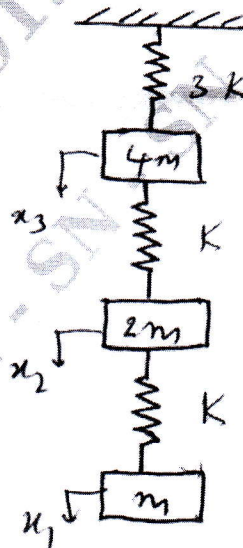

Fig. Q7
- 7 By the Holzer method find the natural frequencies of the system shown in Fig. Q7. Assume $K = 1$ N/m ; $m = 1$ kg
- 8 a. For the system shown in Fig. Q7, find the lowest natural frequency by Stodola's method. (12 Marks)